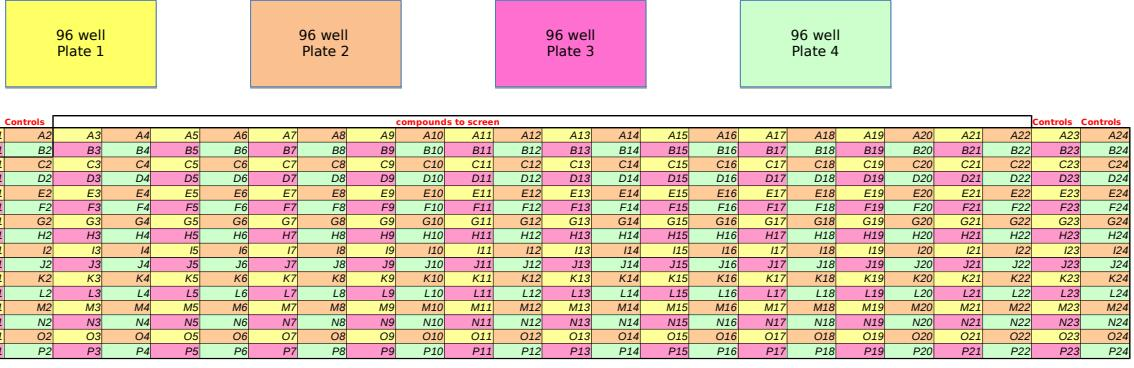

Figure 1: 384-well plate consisting of four 96-well plates.
- 384-well plate composed of four 96-well plates. This format represents an 16×24 matrix. The first and last two columns represent control wells and columns three to twenty two represent compound wells. From this 384-well plate, four 96-well plates can be constructed as shown in Fig. 1.
As mentioned in the previous subsection, it is assumed that the control wells are located either in the first and last plate columns (96-well plate), or in the first and last two plate columns (384-well plate) as shown in Fig. 1. The R package `highSCREEN` assumes that the plate contains positive and negative control wells. The package can also handle additional control types as specified by the user. The requirement is that in addition to the 384-well plate data the user also provides a control map. The map specifies the control type and its position in the control columns, and is used to identify the controls in the plate layout. There are two types of control maps, 96-well and 384-well plate control maps. The first column of the 384-well plate control map specifies the controls and their position in the first column of the 384-well plate. Similarly, the second, third and fourth control map columns correspond to the second, twenty third and twenty fourth 384-well plate columns, respectively. Similarly, the first and second columns of the 96-well plate control map specify the controls and their position in the first and second columns of the 96-well plate, respectively. In the example below, a 384-well plate contains five different types of controls, positive controls ("Control P"), negative controls ("Control N"), controls with low concentration ("Control low"), controls with medium concentration ("Control med"), and controls with high concentration ("Control high").